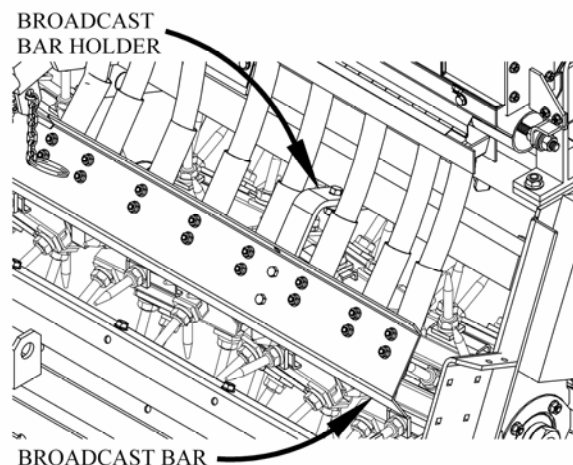

Figure 14. Broadcast Bar Behind Rotors
2. Attach (but do not tighten) the broadcast bar holders to the broadcast bar rotated from its previous position. In like manner attach the broadcast bar holders to the frame as shown in Figure 14.